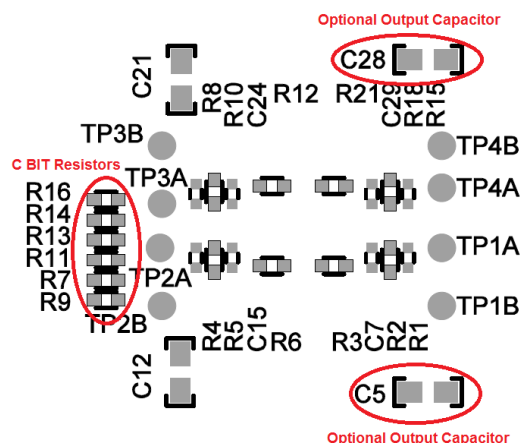

Figure 3. C Bit Resistors and Optional Output Capacitors for V_{OUT1} and V_{OUT4}
2. Set the associated C bit pins high or low as per Table 1 by opening and shorting the appropriate resistors. C1, C2, and C3 are set high by shorting R7, R11, and R14 respectively. C1, C2, and C3 are set low by shorting R9, R13, and R16 respectively. The C bit resistors are 0603 resistors located on the bottom of the board as shown in Figure 3.
- The output capacitance requirement is a minimum of 22 μ F for each 1A of output current. Each output has an optional 0805 capacitor on the bottom of the board. Add the required amount of capacitance to C5 and/or C29 (shown in Figure 3) for V_{OUT1} and V_{OUT4} respectively, if needed.